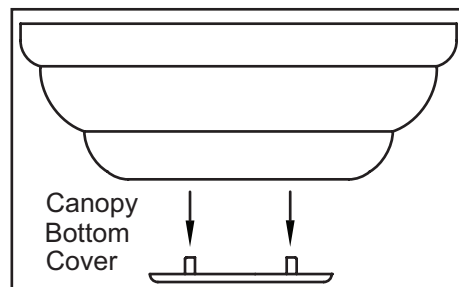

Figure 9
WHEN MOUNTING THE FAN ON A SLOPED CEILING, THE STANDARD BALL/DOWNROD MOUNTING METHOD MUST BE USED. THE MOUNTING PLATE MUST BE MOUNTED SO THAT THE SLOT OPENINGS ARE ON THE LOWER SIDE BY SLIDING THE MOUNTING PLATE FROM THE TOP DOWN. FOR A GREATER MOUNTING ANGLE, REMOVE THE DECORATIVE CANOPY BOTTOM COVER (FIGURE 9).
3. Remove the decorative canopy bottom cover from the canopy by depressing the three studs (Figure 9).